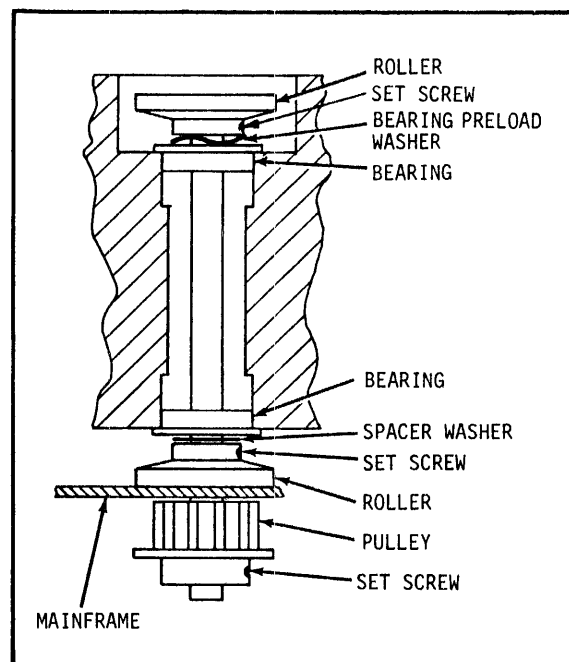

Figure 6-6. Roller Shaft Bearing Preload Adjustment
- a. Preloading the bearings can be accomplished by rotating the roller of the shaft to be adjusted to conveniently expose the set screw. Using a 1/16" Allen screwdriver, LOOSEN the set screw in the top roller, figure 6-6.